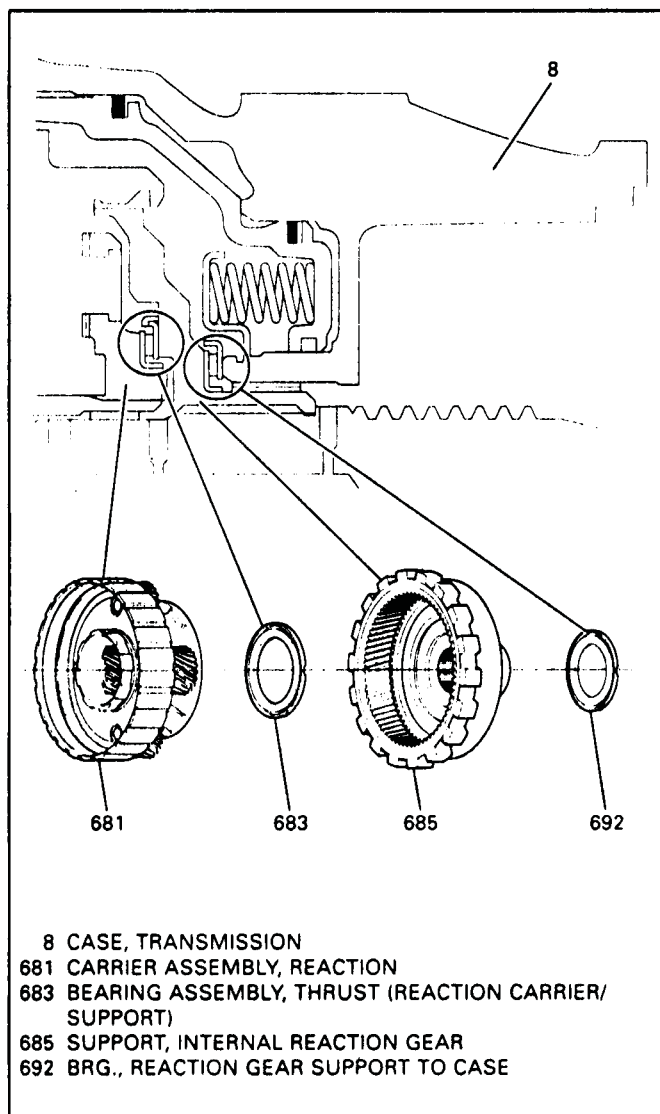

Figure 68
5. Install thrust bearing on back of the ring gear support and retain with a small amount of TransJel (Figure 68).
6. Install thrust bearing into front side of ring gear support as shown in Figure 68.